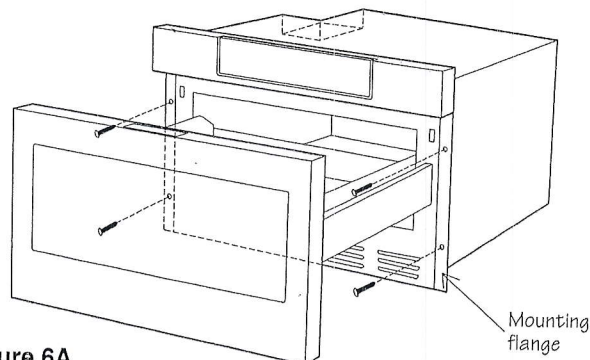

Figure 6A
3. Slide the drawer all the way until the mounting flange is flush with the face of the cabinet. See Figure 6A.
4. Open the drawer. Using the 4 holes on the drawer as a template, pre drill the cabinet using a 1/16" bit. See Figure 6A.